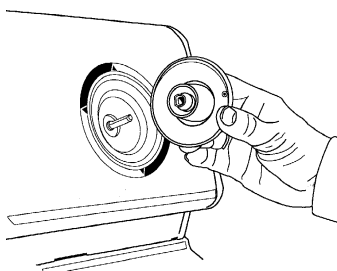

Figure 4-7
2. Carefully lift the timer knob and dial off the timer shaft by pulling the knob away from the face of the control console (*Figure 4-7*).